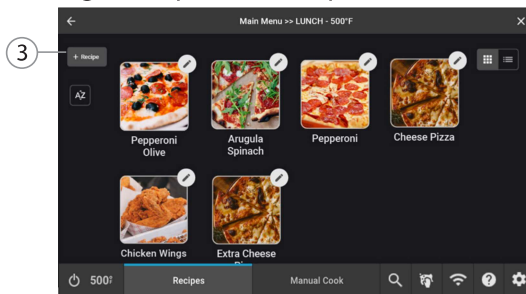

Figure 31: Add Recipe to Group
3. Touch the “+Recipe” button (Figure 31, above).